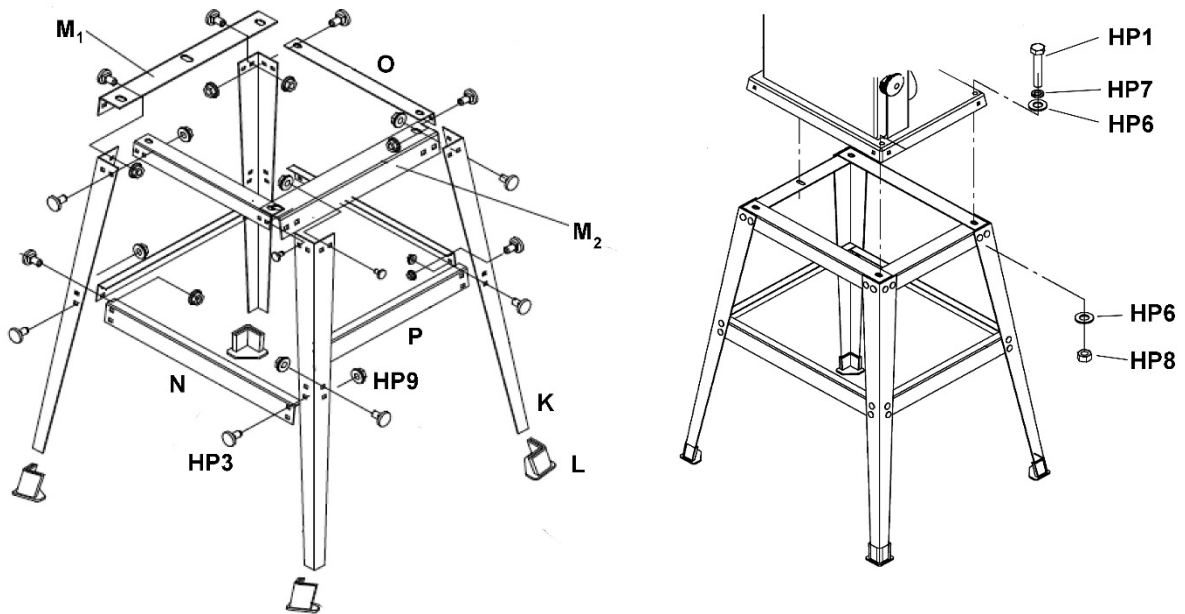

Figure 4
1. Refer to Figure 4 to assemble stand. Use carriage bolts (HP3) and flange nuts (HP9) throughout. Only *hand-tighten* all fasteners at this time.
2. Make sure the two short support plates with extra holes (M) are opposite one another as shown.
3. Slip rubber feet (L) onto ends of stand legs.